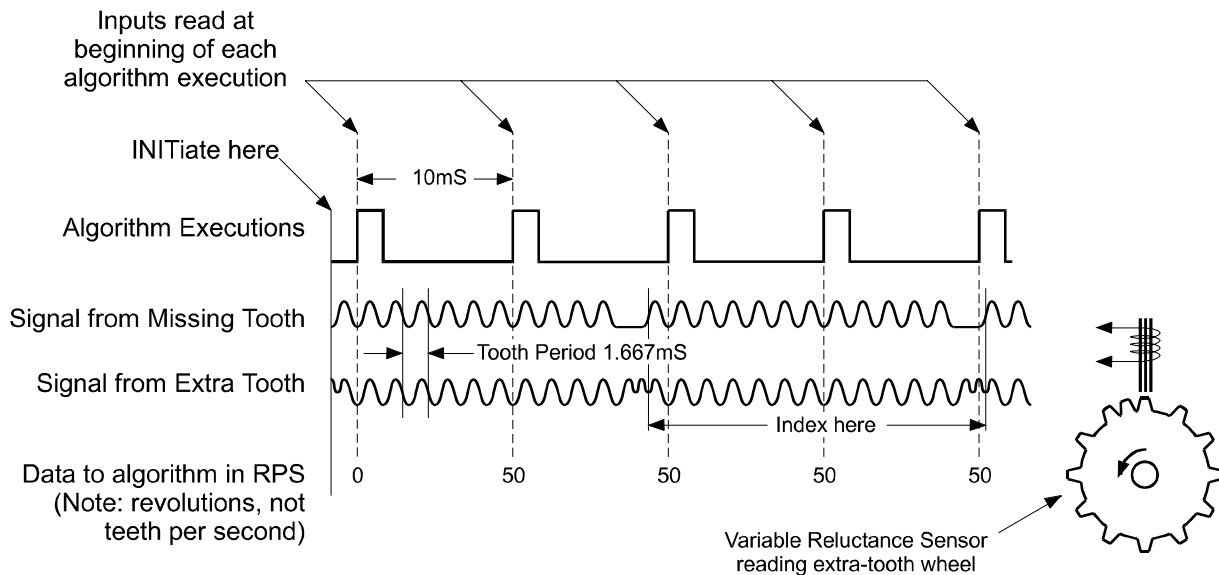

Figure 14. Sense Rotational Velocity
This means that the E1538 will read the rotational velocity of a toothed wheel sensor. The E1538 measures tooth-to-tooth period and converts it into units of revolutions per second (RPS). This function can only be linked to the E1538's first channel. The function works for wheels that have either a missing, or an extra tooth to mark their index position. Figure 14 shows a wheel sensed with a variable reluctance sensor (using the VRS input option), but any wheel sensing method is applicable as long as it provides a digital output to the RVEL channel.
- <n_teeth> is the number of teeth that the wheel would have if it didn't have missing or extra teeth. For example, we would set <n_teeth> to 12 for the wheel shown in Figure 14, even though with the missing tooth, there are only 11. <n_teeth> can range from 3 to 255.